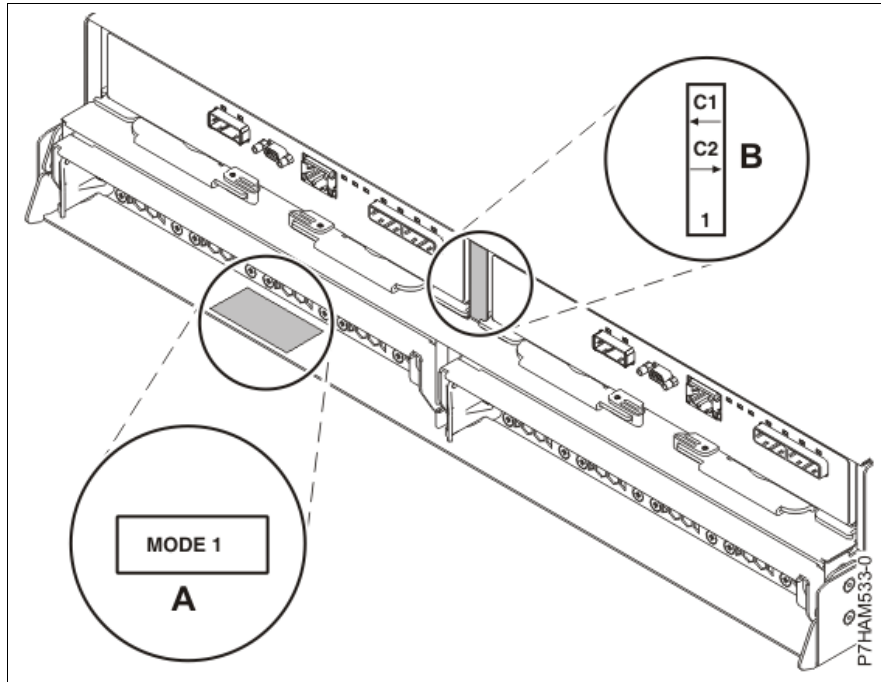

Figure 2-25 Mode sticker locations at the rear of the 5887 disk drive enclosure
As shown in Figure 2-25 on page 83, stickers indicate whether the enclosure is set to Mode 1, Mode 2, or Mode 4. They are attached to the lower-left shelf of the chassis (A) and the center support between the enclosure services manager modules (B).